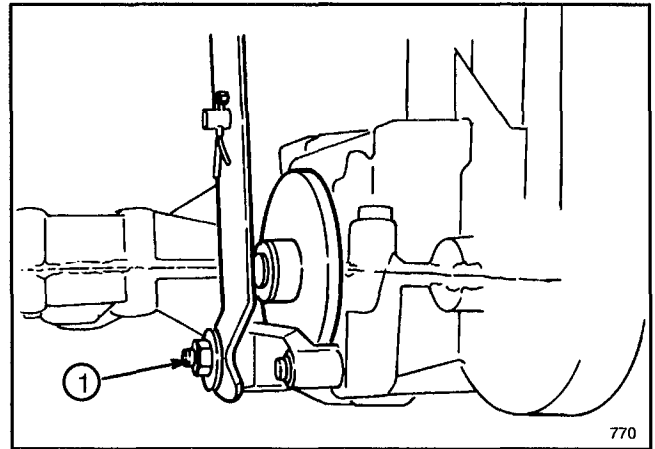

Figure 30
Adjust brake pucks if the parking brake does not hold or braking power is not sufficient when brake pedal is depressed. The brake is located on the left side of the transaxle (Fig. 30).
2. Tighten locknut approximately 1/4 turn clockwise (Fig. 30).